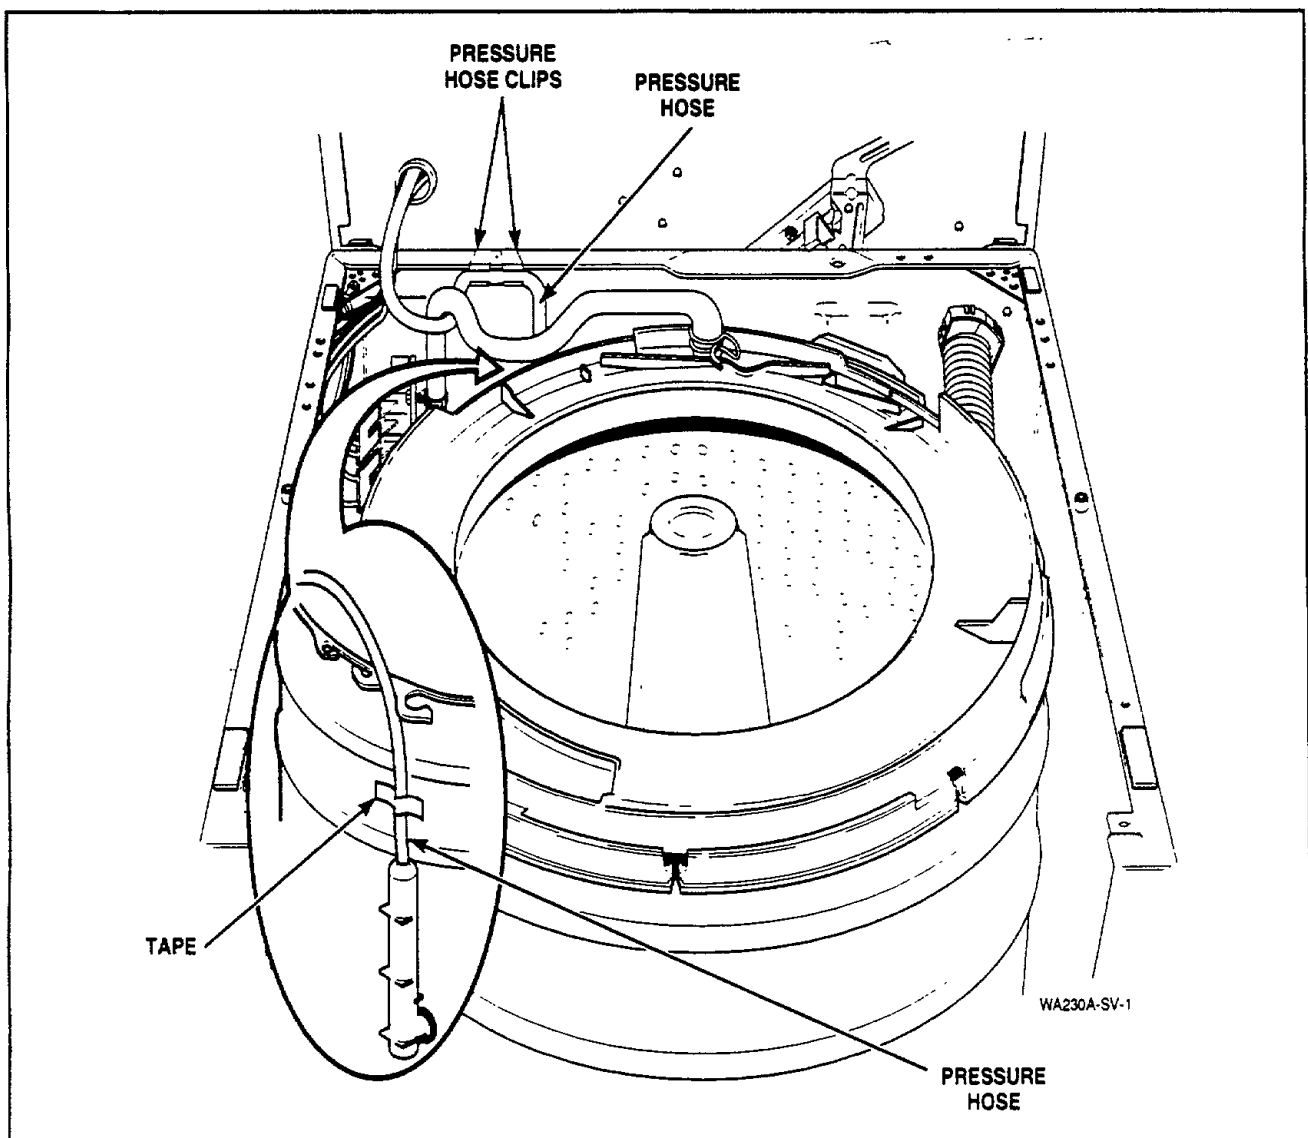

Figure 67
- Route the pressure hose as shown in *Figure 67*. Then route the pressure hose back up through the hole in the cabinet top.